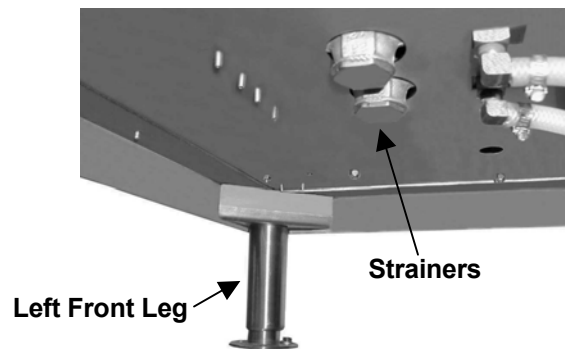

Figure 3-2 Pre-installed Water Strainer Assembly
3. On some models the strainers are built into the steamer and are accessible from underneath the steamer (See Figure 3-2), otherwise the strainers should be installed upstream of the steamer in the water supply(s).